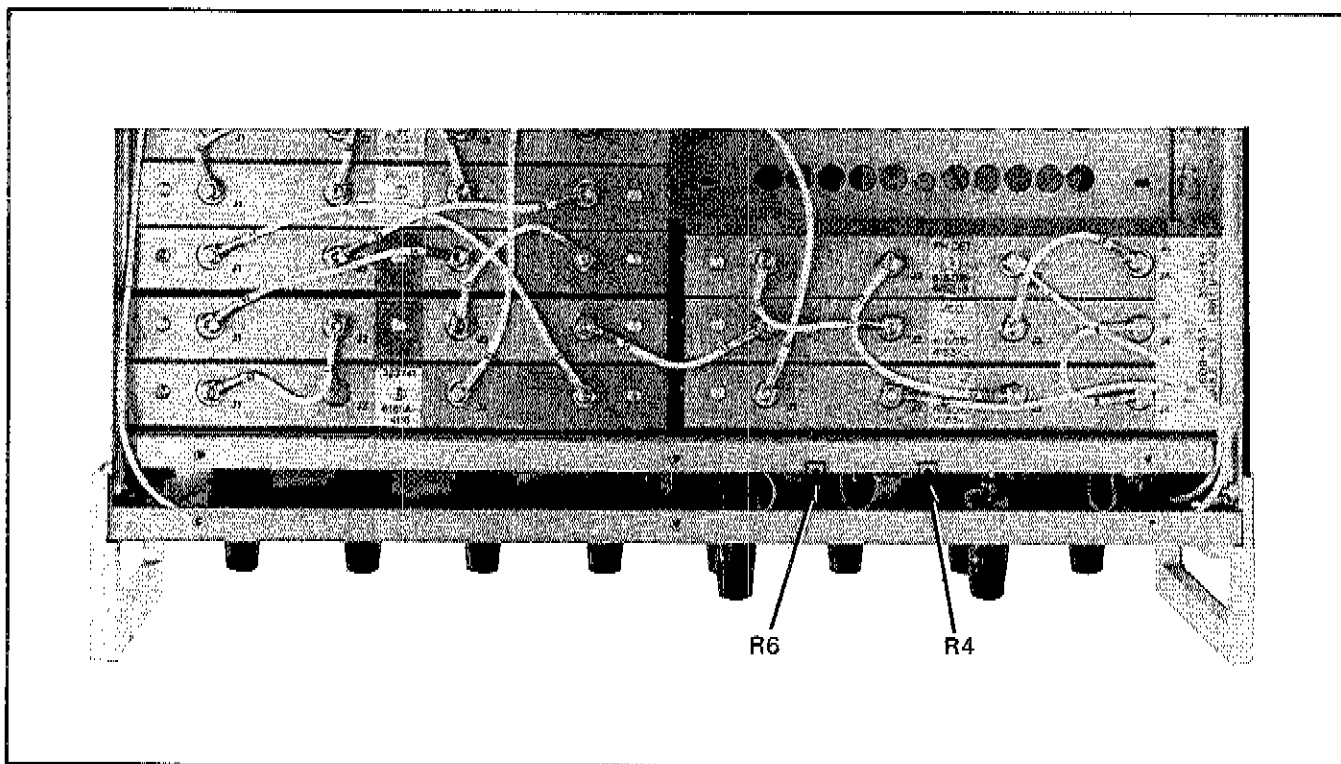

Figure 4-4. OUTPUT LEVEL ADJUSTMENTS
- f. Rotate highest frequency dial through positions 1 to 12 and observe that rf voltmeter indicates +3 dBm  $\pm$  1 dB. If necessary, adjust R6 (refer to Figure 4-4 for location).
- c. Rotate highest frequency dial through positions 1 to 15 and observe that indication on rf voltmeter is +13 dBm  $\pm$  1 dB. If necessary, adjust R4 (refer to Figure 4-4 for location).